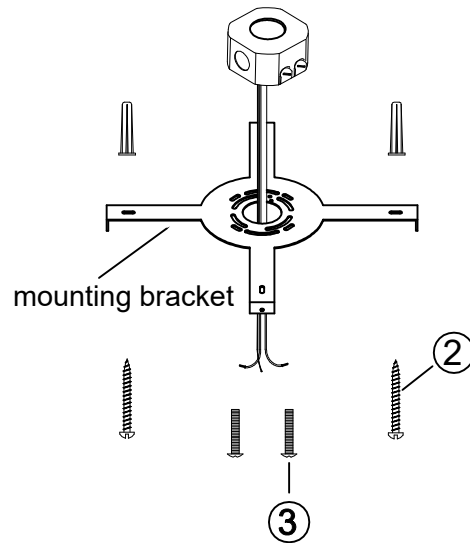

Fig.1
2. Feed the wires from ceiling through mounting bracket then attach mounting bracket to junction box and attach screws to ceiling anchors for added support (Fig.1).